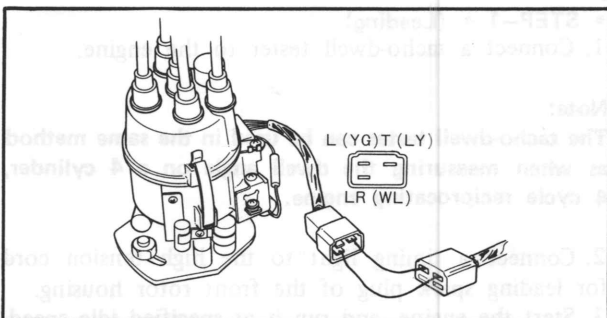

Fig. 5-6 Coupler connection diagram
8. Remove the coupler of the distributor and connect proper leading wires to the ends of separated couplers as shown in Fig. 5-6.
1. Remove the coupler of the distributor and connect wires as shown in Fig. 5-6